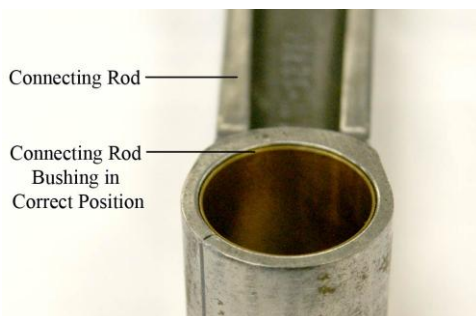

Figure 4
- (1) Either apply a straight edge or run your finger around the perimeter of each side of the connecting rod where the connecting rod bushing is installed.
- (2) Visually or by touch determine whether the connecting rod bushing is raised above the surface of the connecting rod perimeter.
- (3) If the connecting rod bushing is flush with or below the connecting rod perimeter (Figure 4), go to Step1A (5).